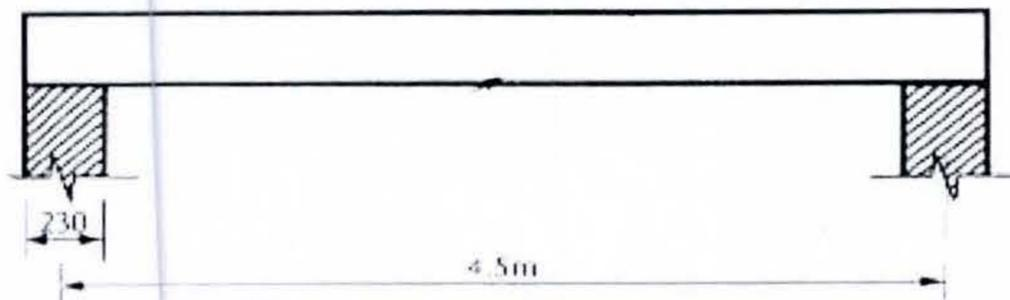

Figure 3.1
- a) Design a one way spanning slab spanning 4.5m on 230mm walls to carry a live load of 3.0kN/m², plus floor finishes and ceiling loads of 1.0 kN/m² as shown in Figure 3.1. Characteristic material strengths: $f_y = 460$ MPa, $f_{cu} = 30$ MPa